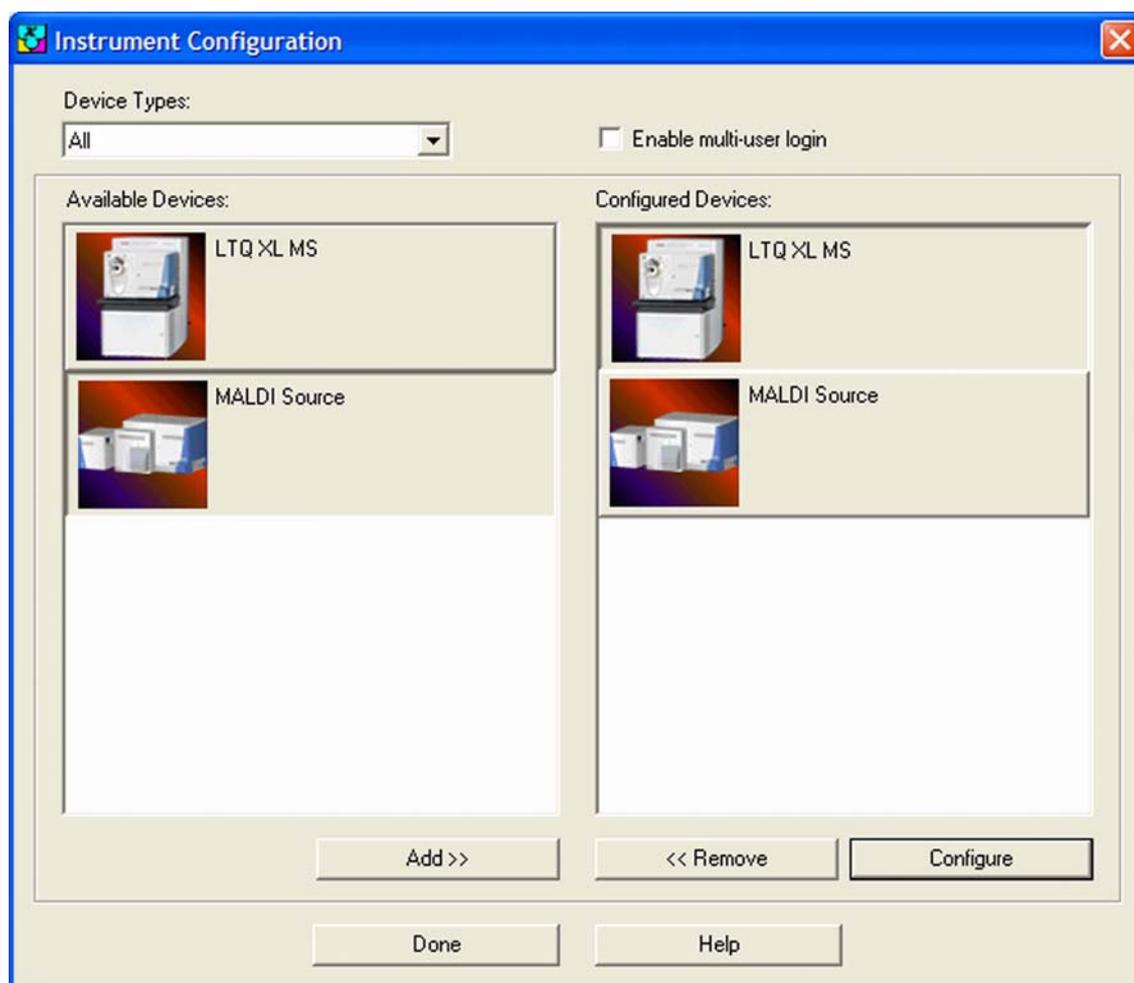

Figure 7-17. Instrument Configuration window
1. From the Instrument Configuration window, click on **LTQ Orbitrap XL MS** in the Configured Devices group box. See Figure 7-17.